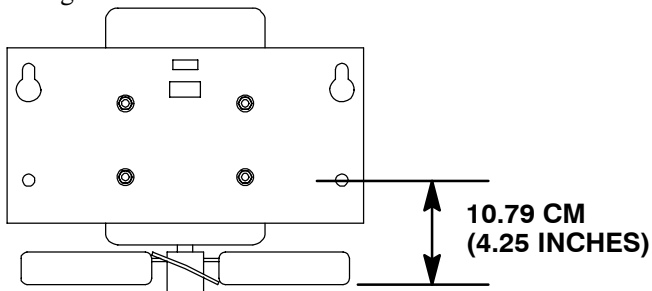

Figure 4-15. Evaporator Fan Locating Dimension
- Lubricate fan motor shaft with a graphite-oil solution (Never-Seez). Apply thread sealer (Loctite H, brown in color) to the two fan set screws. Install fan on motor. The evaporator fan locating dimension is shown in Figure 4-15.